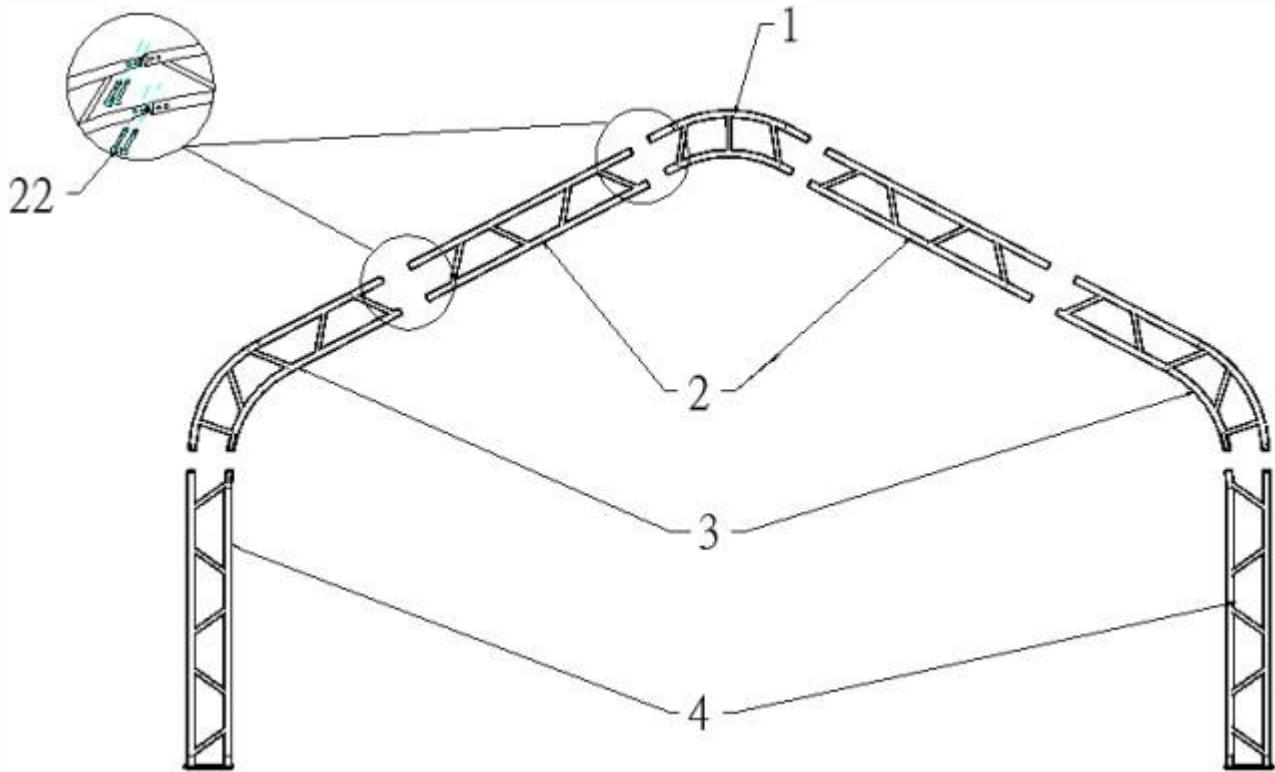

Figure 3 Frame
1. Figure 3 shows to connect the Roof bent tube(No.1),Middle bent tube(No.2),Shoulder bent tube(No.3),Standing leg(No.4) use Bolt 8x70(No.22) to be one arch.